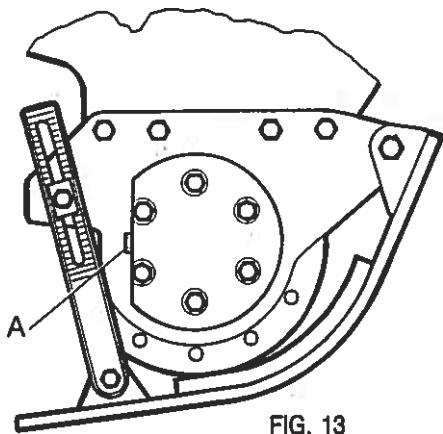

FIG. 13
- CONTROLLARE IL LIVELLO DELL'OLIO DEL SUPPORTO DESTRO DEL ROTORE. (FIG. 13 - POS. A)
- CHECK OIL LEVEL OF THE RIGHT ROTOR SUPPORT. (FIG. 13 - POS. A)
- REFILL GEARBOX WITH NEW OIL BY OPENING THE OUTLET SCREW PLUG SHOWN IN FIG. 13. AGIP-ROTRA MP 85 W/140 (2 LITERS).
- CONTROLER LE NIVEAU DE L'HUILE DU SUPPORT DROIT DU ROTOR. (FIG. 13 - POS. A)
- CHANGER L'UILE DU BOITIER EN DEVISSANT LE BOUCHON DE DECHARGE (FIG. 13) AGIP-ROTRA MP 85 W/140 (LITRES 2)
- KONTROLLE DES OELNIVEAUS IM RECHTEN ROTORLAGER. (FIG. 13 - POS. A)
- OEL IN DEM GETRIEBEKASTEN WECHSELN, BEI LOCKERN DER OELABLASSSCRAUBE WIE IN ABB. 13 AGIP ROTRA MP 85 W/140 (2 LITER).